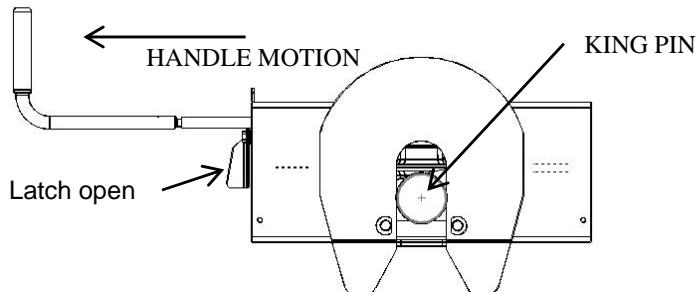

Fig. 11
4. With handle in the closed position (See Fig. 10), back truck slowly into trailer. As the trailer king pin enters the hitch it will push the hitch jaws open and extend the handle (See Fig. 11). As king pin completely enters head, jaws will spring closed around king pin and handle will return to the closed position. (See Fig. 12)